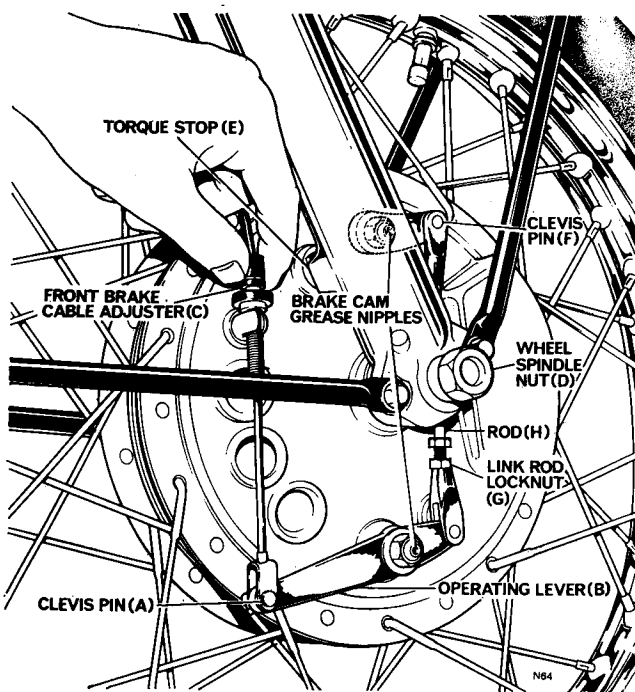

Fig. H10 Drum front brake external features
Routine brake adjustment is carried out by means of the cable adjuster (C). See Fig. H10. Correct adjustment will allow the wheel to spin freely with the minimum movement at the control lever.
Fig. H10 & H11 show the external features of the drum type twin leading shoe brake. Adjustment by this means is sufficient until such times as the brake shoes or linings are replaced. After replacement of such parts, the lining contact with the drum must be reset by means of the link rod adjustment.
- 1 Take out the top clevis pin (F). See *Fig. H10*.
- 2 With the help of a second operator apply both the top and bottom operating levers (B) fully, and adjust the length of the link rod by slackening the link rod locknut (G) and screwing the link rod (H) in or out until with the linings still in contact with the drum the clevis pin can be refitted.